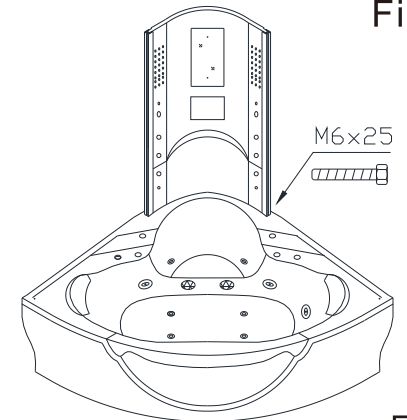

Fig.4
3、 Install the mid-wallboard---- use 4-5 sets of M6×25 bolts to connect the mid-wall and the tub through the holes at the back. (As the Fig.4)